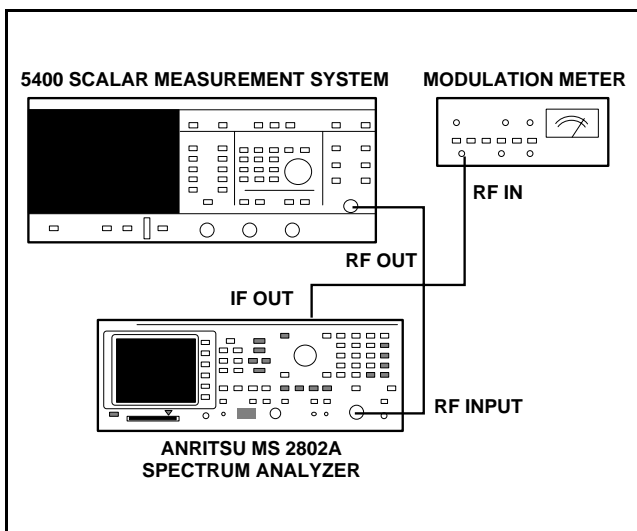

Figure 5-9. Equipment Setup For Residual FM Test
1. Set up the equipment as shown in Figure 5-9, and turn the equipment on.